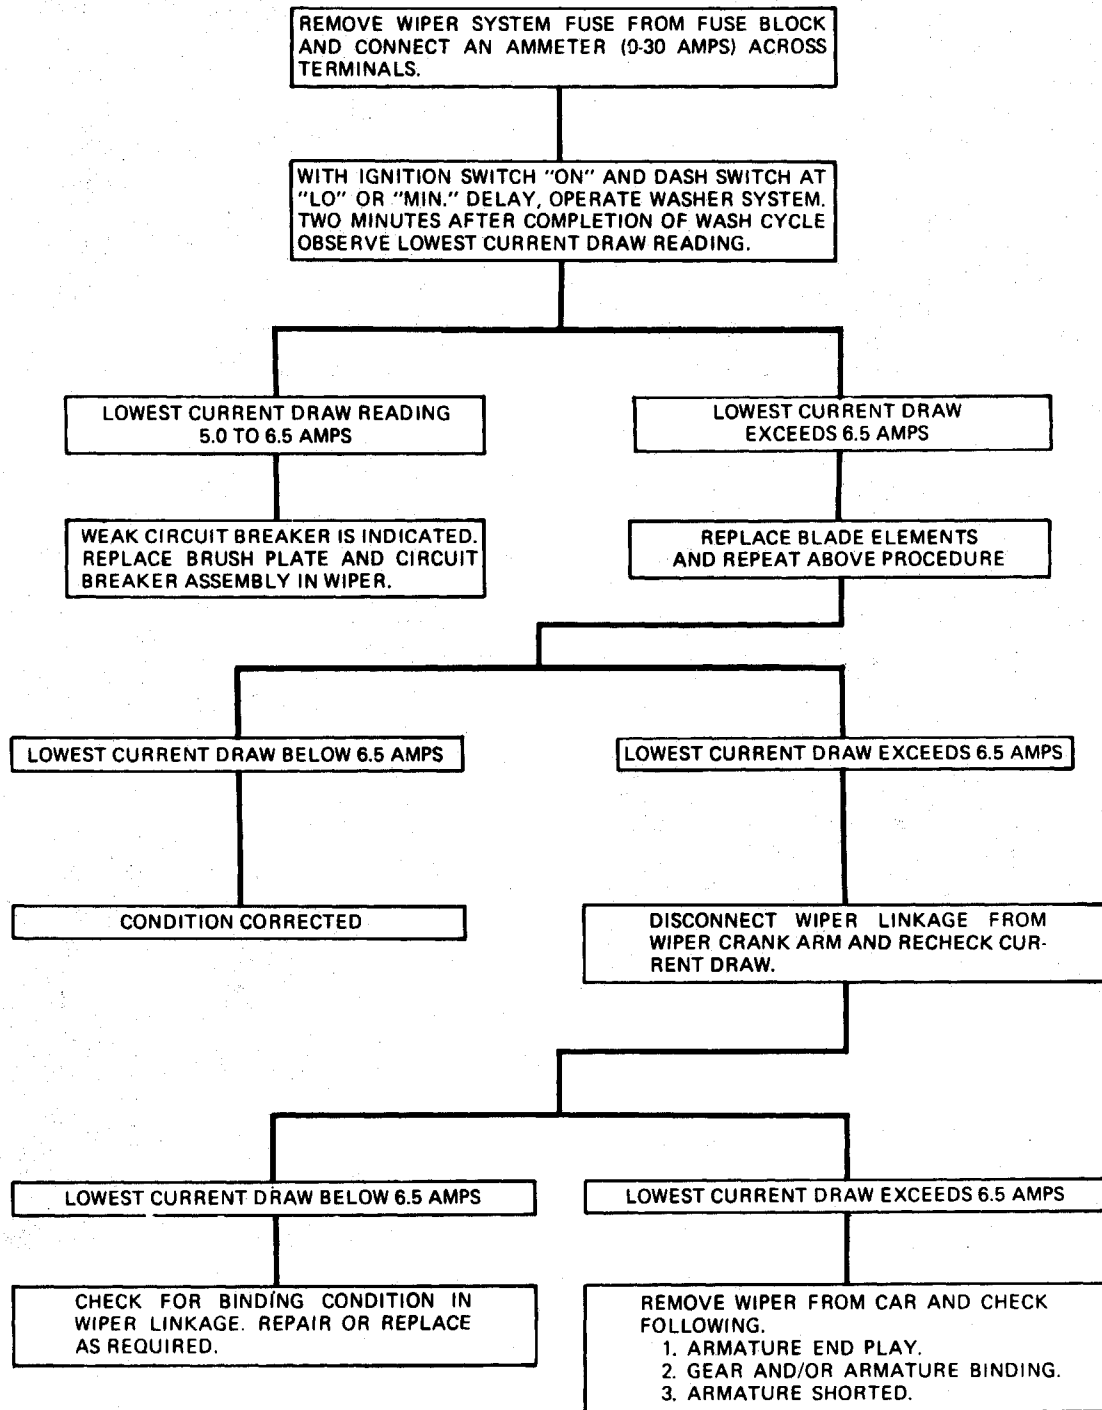

Fig. 2-73-Modified Pulse Wiper Diagnosis Chart - Condition 9
9. Intermittent wiper operation. (Blades stop at random positions on windshield).	Fig. 2-73